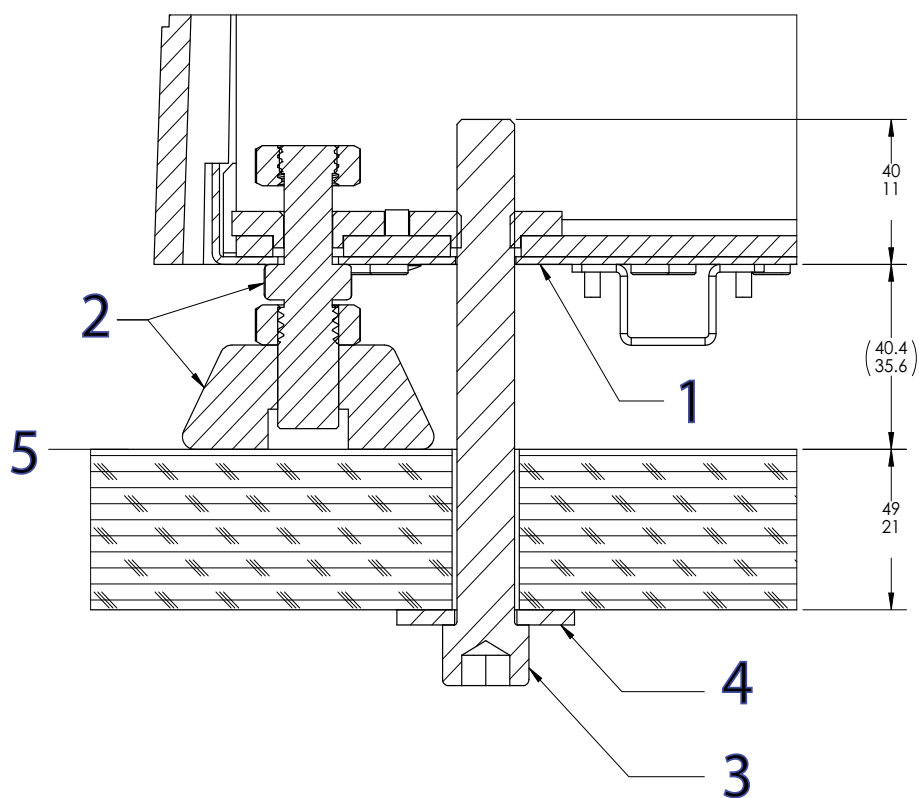

Figure 17. Secure the frame to the table
Legend for Figure 17
3. Install each bolt and oversized washer as shown in Figure 17 on page 73.